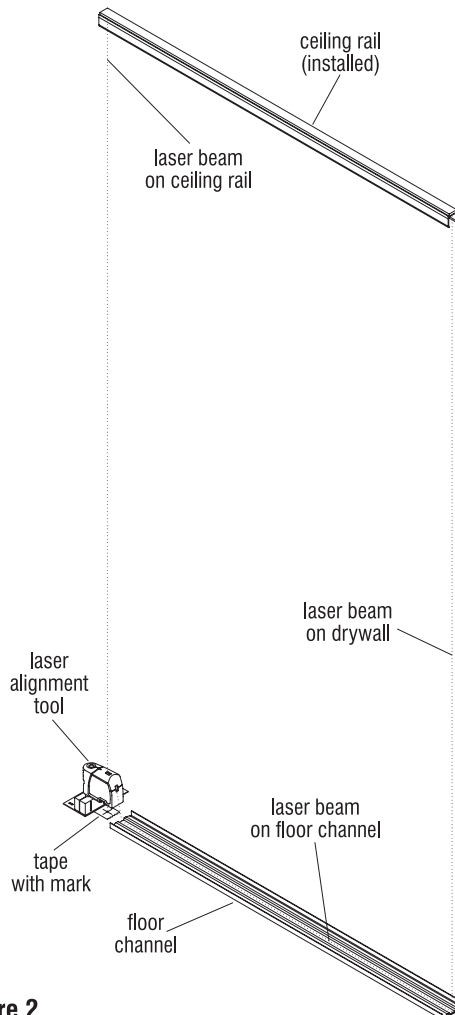

Figure 2
2. Place the floor channel on the laser alignment mark (Figure 2).
3. Repeat steps one and two for installing additional floor channels, directly below ceiling rails (Figure 2).